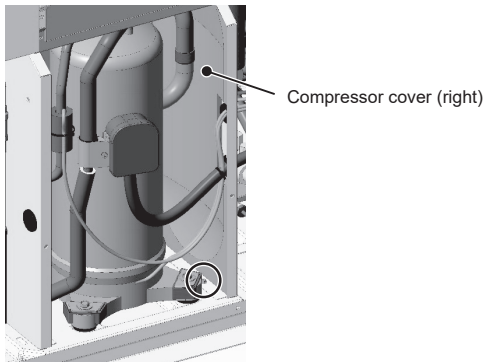

Figure 4
- (4) Remove the compressor cover (right). (1 screw, Figure 4)